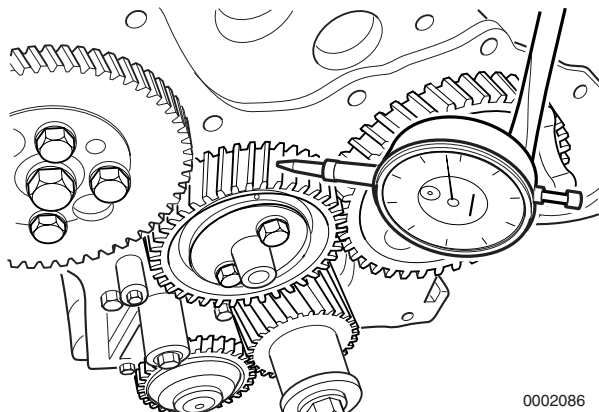

Figure 6-87
1. Install a dial indicator as shown in **Figure 6-87**.